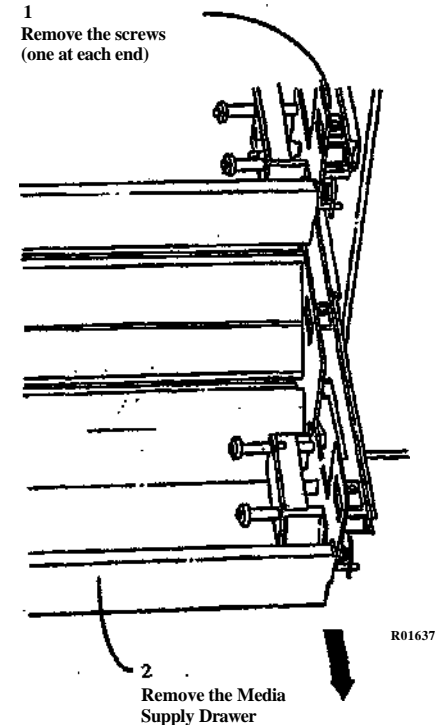

Figure 2. Removing the Media Supply Drawer
3. (Figure 2): Remove the Media Supply Drawer.